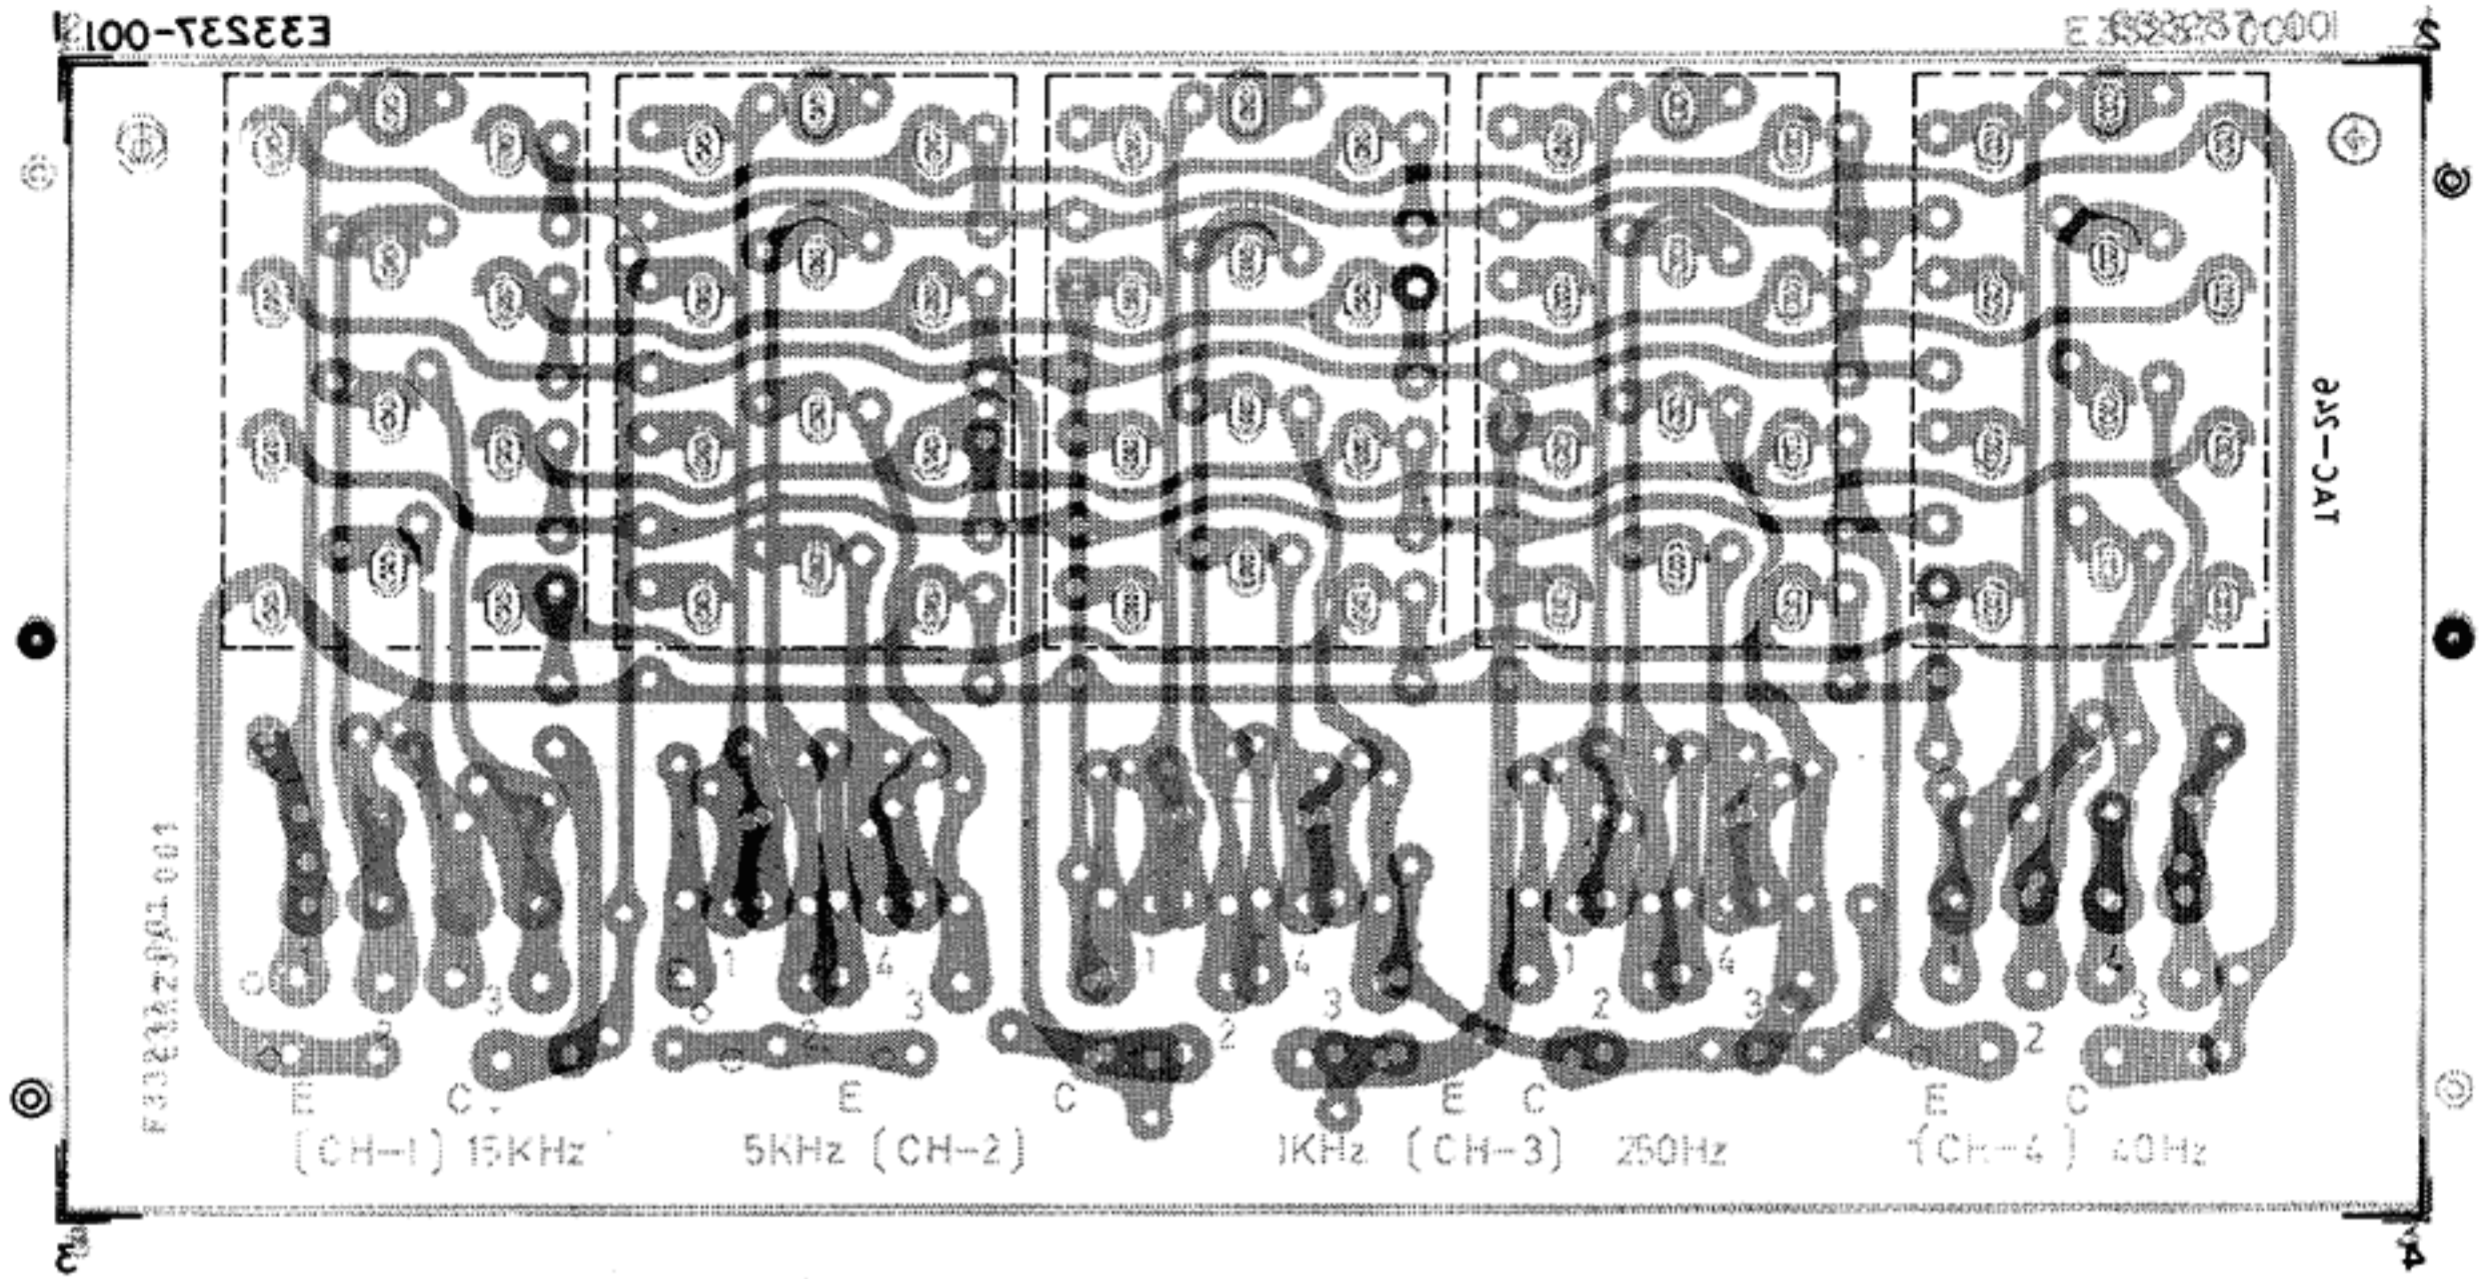

Fig. 22
**WIRE CONNECTION** (Fig. 22, 23)